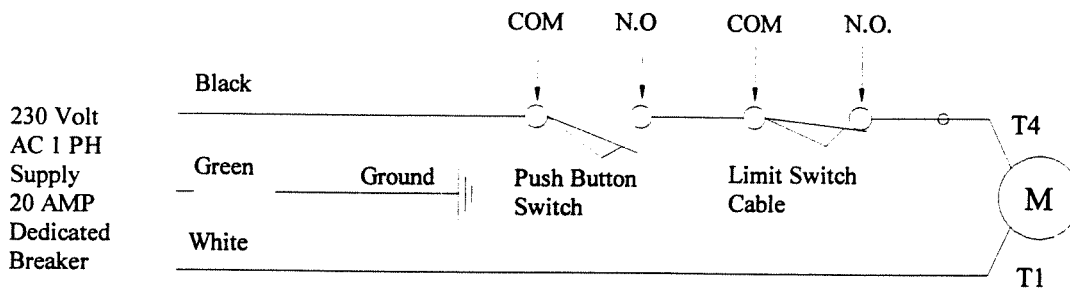

FIGURE 13
28. Establish electrical hook-up to 220V single phase as shown in Figure 13.